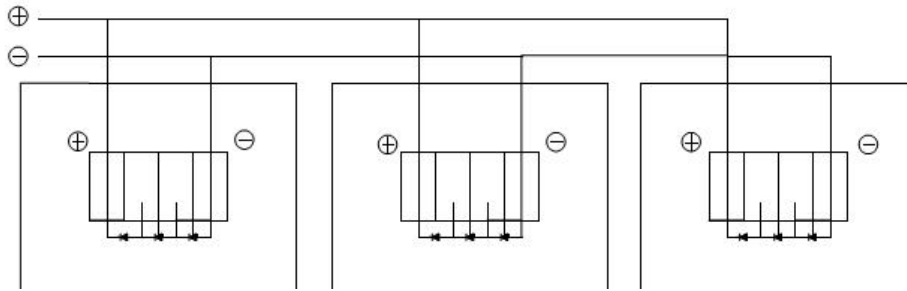

Figure 3.PARALLEL for more current
- ☆ Connect PV modules in parallel to increase current. Connect wires from the positive terminal of one module to the positive terminal on the next module. Figure 3 shows modules connected.